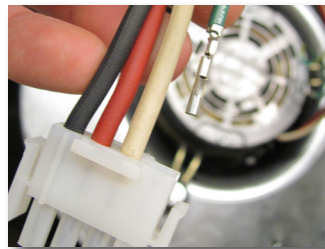

Fig. 4a - Ground Wire Extension
4. Insert ground wire extension into 4-prong motor plug. (Figs. 4a, 4b)